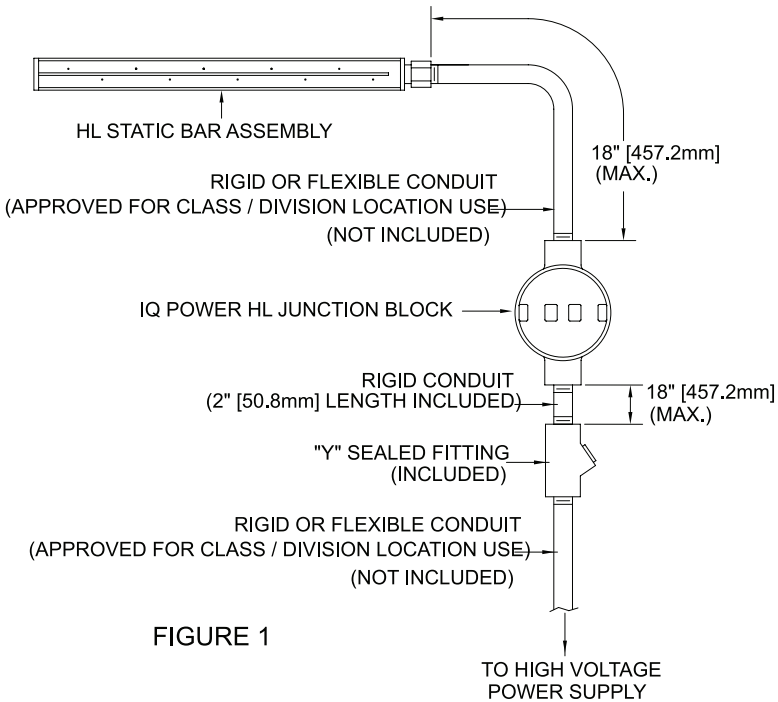

FIGURE 1
1. Installations that have 18” or less of conduit between the static bar and HL Junction Block will require one (1) sealing fitting between the junction block and the power supply, see **Figure 1**.